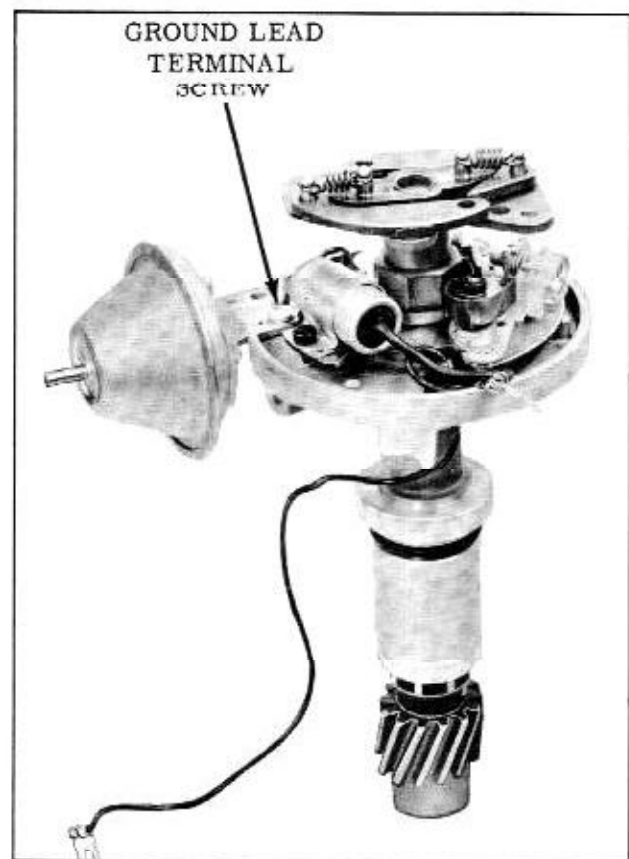

Fig. 13-71 Distributor Ground Lead
4. Loosen the ground lead terminal screw and disconnect the ground lead terminal from the vacuum advance unit. (Fig. 13-71)